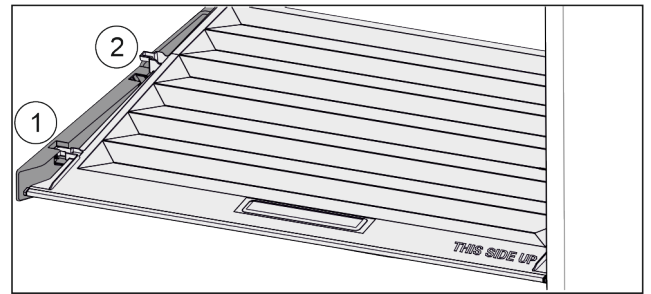

Fig. 59
- ▶ Pull the lid up at the front to the opening in the retaining parts Fig. 59 (1).
- ▶ Lift from the back and pull it up and out Fig. 59 (2).